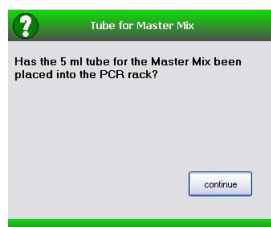

Figure 21. Tube for Master Mix- dialog window
31. Check for the 5 mL tube for the Master Mix preparation (Fig. 21).